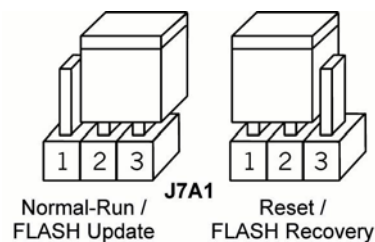

Figure 6. Jumper Positions for Flash Update and Recovery
- e. On jumper block J7A1 move the jumper from position 2-3 to position 1-2 (see Figure 6). Re-install the adapter in the PCI slot in which it was previously installed.